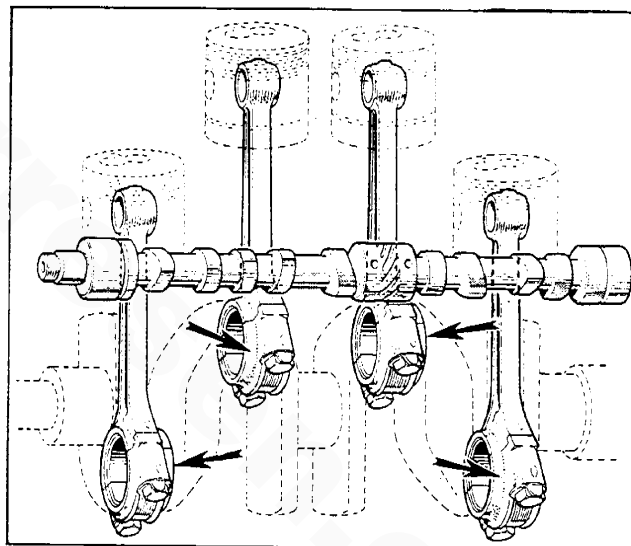

Fig. 6
- c. Fit the connecting rods with their offsets as shown in Fig. 6 , using tool 18G 55 A to compress the piston rings.